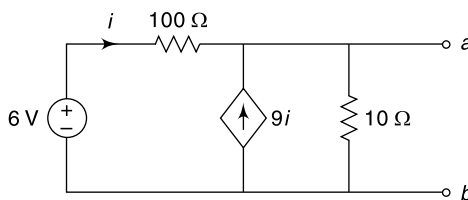

Fig. 4.193
32. Determine Thevenin's equivalent circuit as viewed from the open circuit terminals a and b of the network shown in Fig. 4.193. [Ans: 3 V , 5Ω]